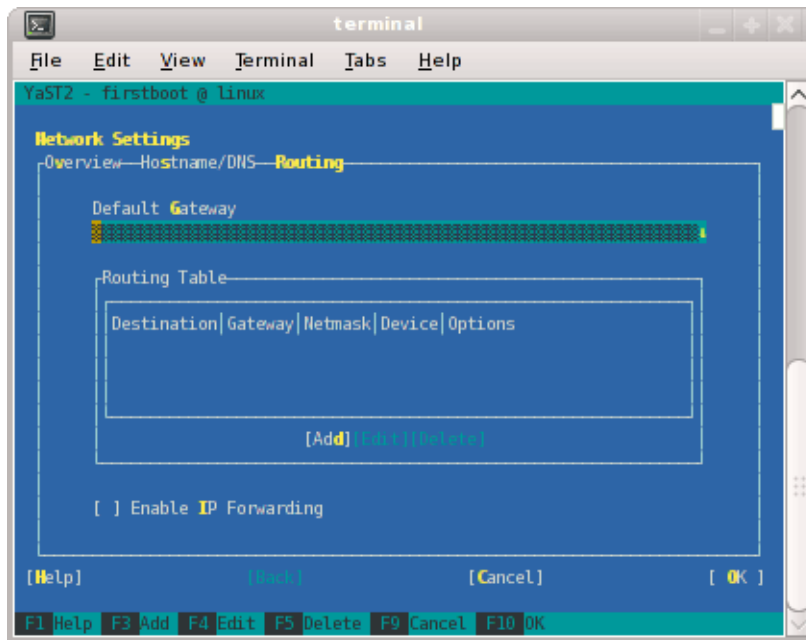

Figure 2-8 Network Settings Routing Screen
11. Select **Routing** shown in Figure 2-8 on page 46 and enter your house/public network default router information there. Now you can select **OK**.